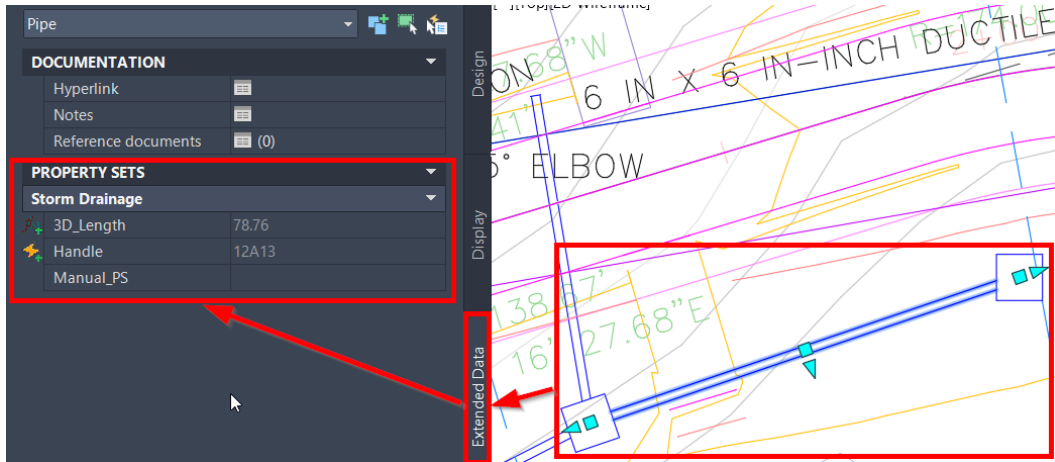

Figure 10.13 – Updated property set extended data
12. Then, go into the **Properties** dialog box and select the **Extended Data** tab, and all property definitions will be listed and associated with your **Pipe** object, where the values displayed in the **Automatic** and **Formula Property Definition** fields will be automatically populated, as shown in *Figure 10.13*: